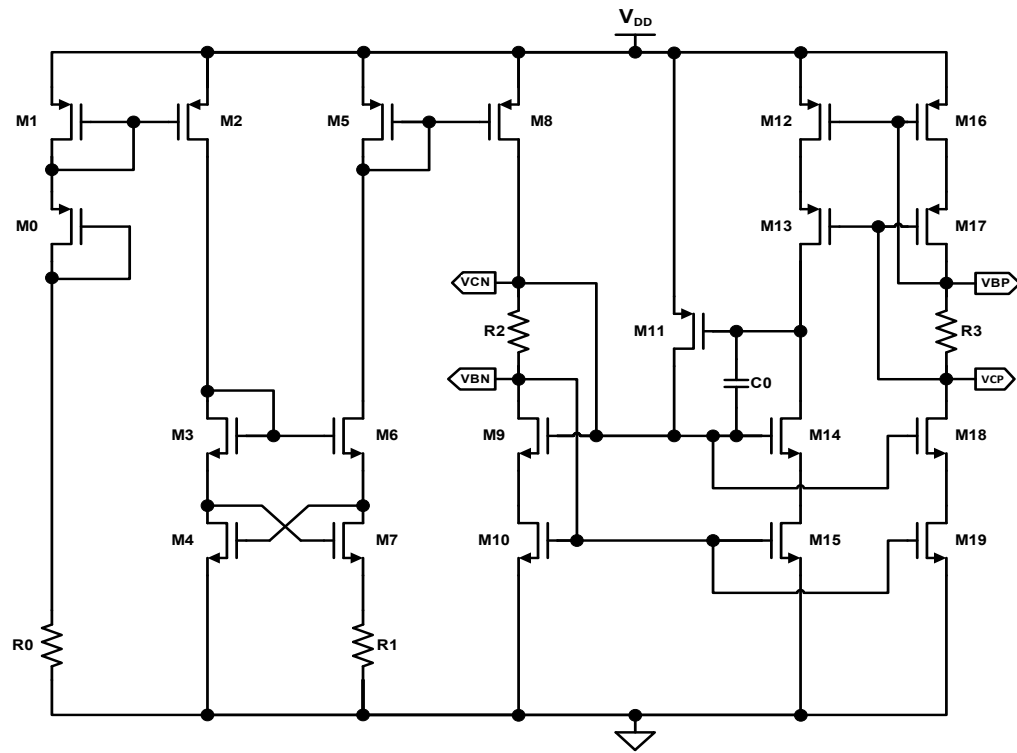

Figure 2: Constant-gm Biasing Circuit with start-up circuitry
The body terminal of all the NMOS and PMOS transistors in the following 2 figures(Figure 2 & 3) are to be connected to ground and  $V_{DD}$  respectively.
Also in Figure 2 & 3, all resistors are high-valued polysilicon with temperature coefficients, and capacitors are mim caps.
The DUT is the circuits of Figure 2 & 3.
- All components in Figure 2 & 3 are implemented on the chip except the rest of the components  $R_I$ ,  $R_F$ ,  $C_F$ ,  $R_{FN}$ ,  $Z_{IMP}$ ,  $C_L$  and  $R_L = 16\Omega$ , which are external.
2. In the **schematic window**, set up and wired the circuit connections in Fig. 2 to 3, respectively. **The body terminal of all the NMOS and PMOS transistors in Figure 2 & 3 are to be connected to ground and VDD respectively.** It is easier said than done. This alone will take at least **four hours** for you to complete. I advise you to wire the circuit carefully, as faulty wiring would lead to inaccurate simulation results later.